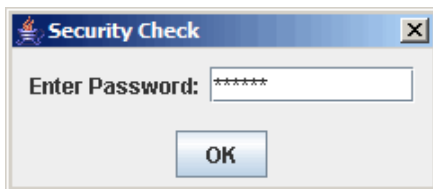

Figure 40 FCIP route add Wizard—security check dialog box
6. The **Security Check** dialog box requests the administrator password, see Figure 40. Enter the appropriate password, then click **OK** to confirm the add of the FCIP route.